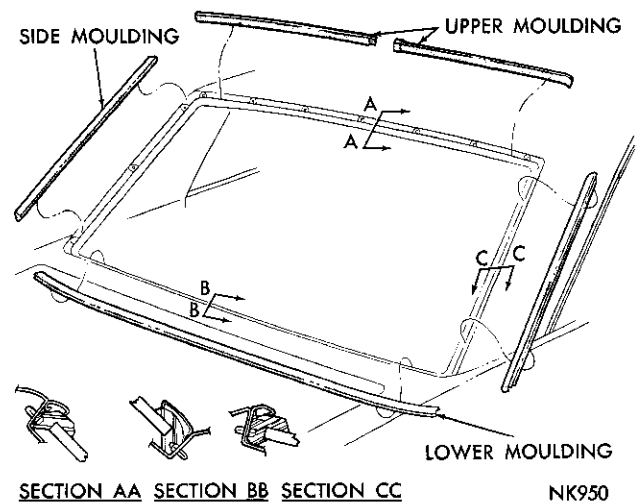
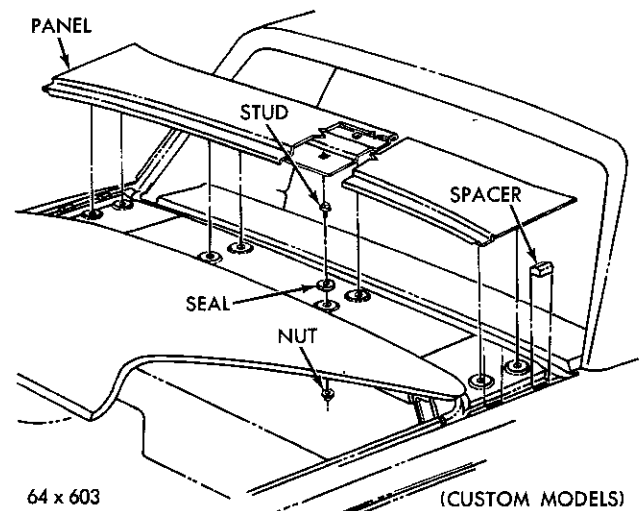
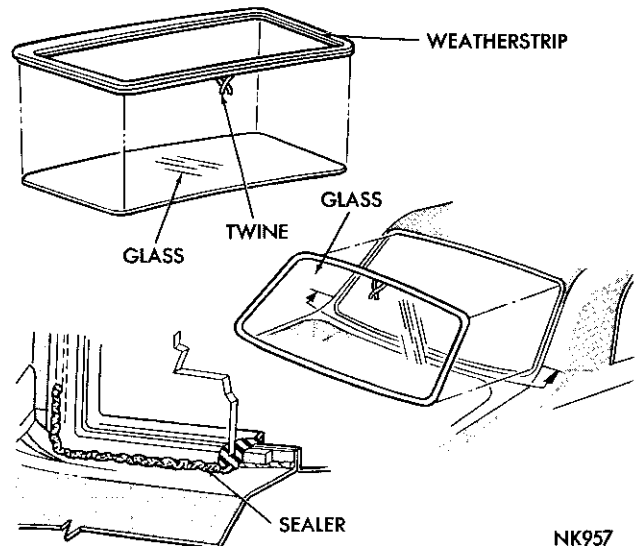

Fig. 124—Rear Window Mouldings (Chrysler)
Fig. 125—Deck Lid Opening Upper Panel (Imperial)
Fig. 127—Rear Window Installation
(1) Place a protective covering over the rear deck panel, quarter panel and rear window areas.
(2) Remove the outside mouldings (Fig. 124) and inside garnish mouldings. On Imperial Models, remove the deck lid upper panel (Fig. 125).
(3) Using a fibre wedge, loosen the weatherstrip at the fence area at the inside and outside areas.
(4) With an assistant steadying the rear window, apply pressure from inside at one of the upper corners and force the rear window and weatherstrip off of the fence.
(5) Remove the rear window from the opening.
(6) Inspect the polyethylene seal for damage and
(6) Seat the glass in the weatherstrip using hand pressure.
(7) Apply a $\frac{3}{8}$ inch bead of sealer (Fig. 127) across the full width and up the sides to the lower portion of the weatherstrip and fence at the top corners.
(8) Remove all excess sealer and cement from the glass.
(9) Place the Imperial deck opening upper panel and seals (Fig. 125) into position in the opening and from inside the luggage compartment install the retaining nuts.
(10) Water test the rear window area.
(11) Install the inside garnish mouldings and the outside window moulding.
(12) Remove all protective covering.